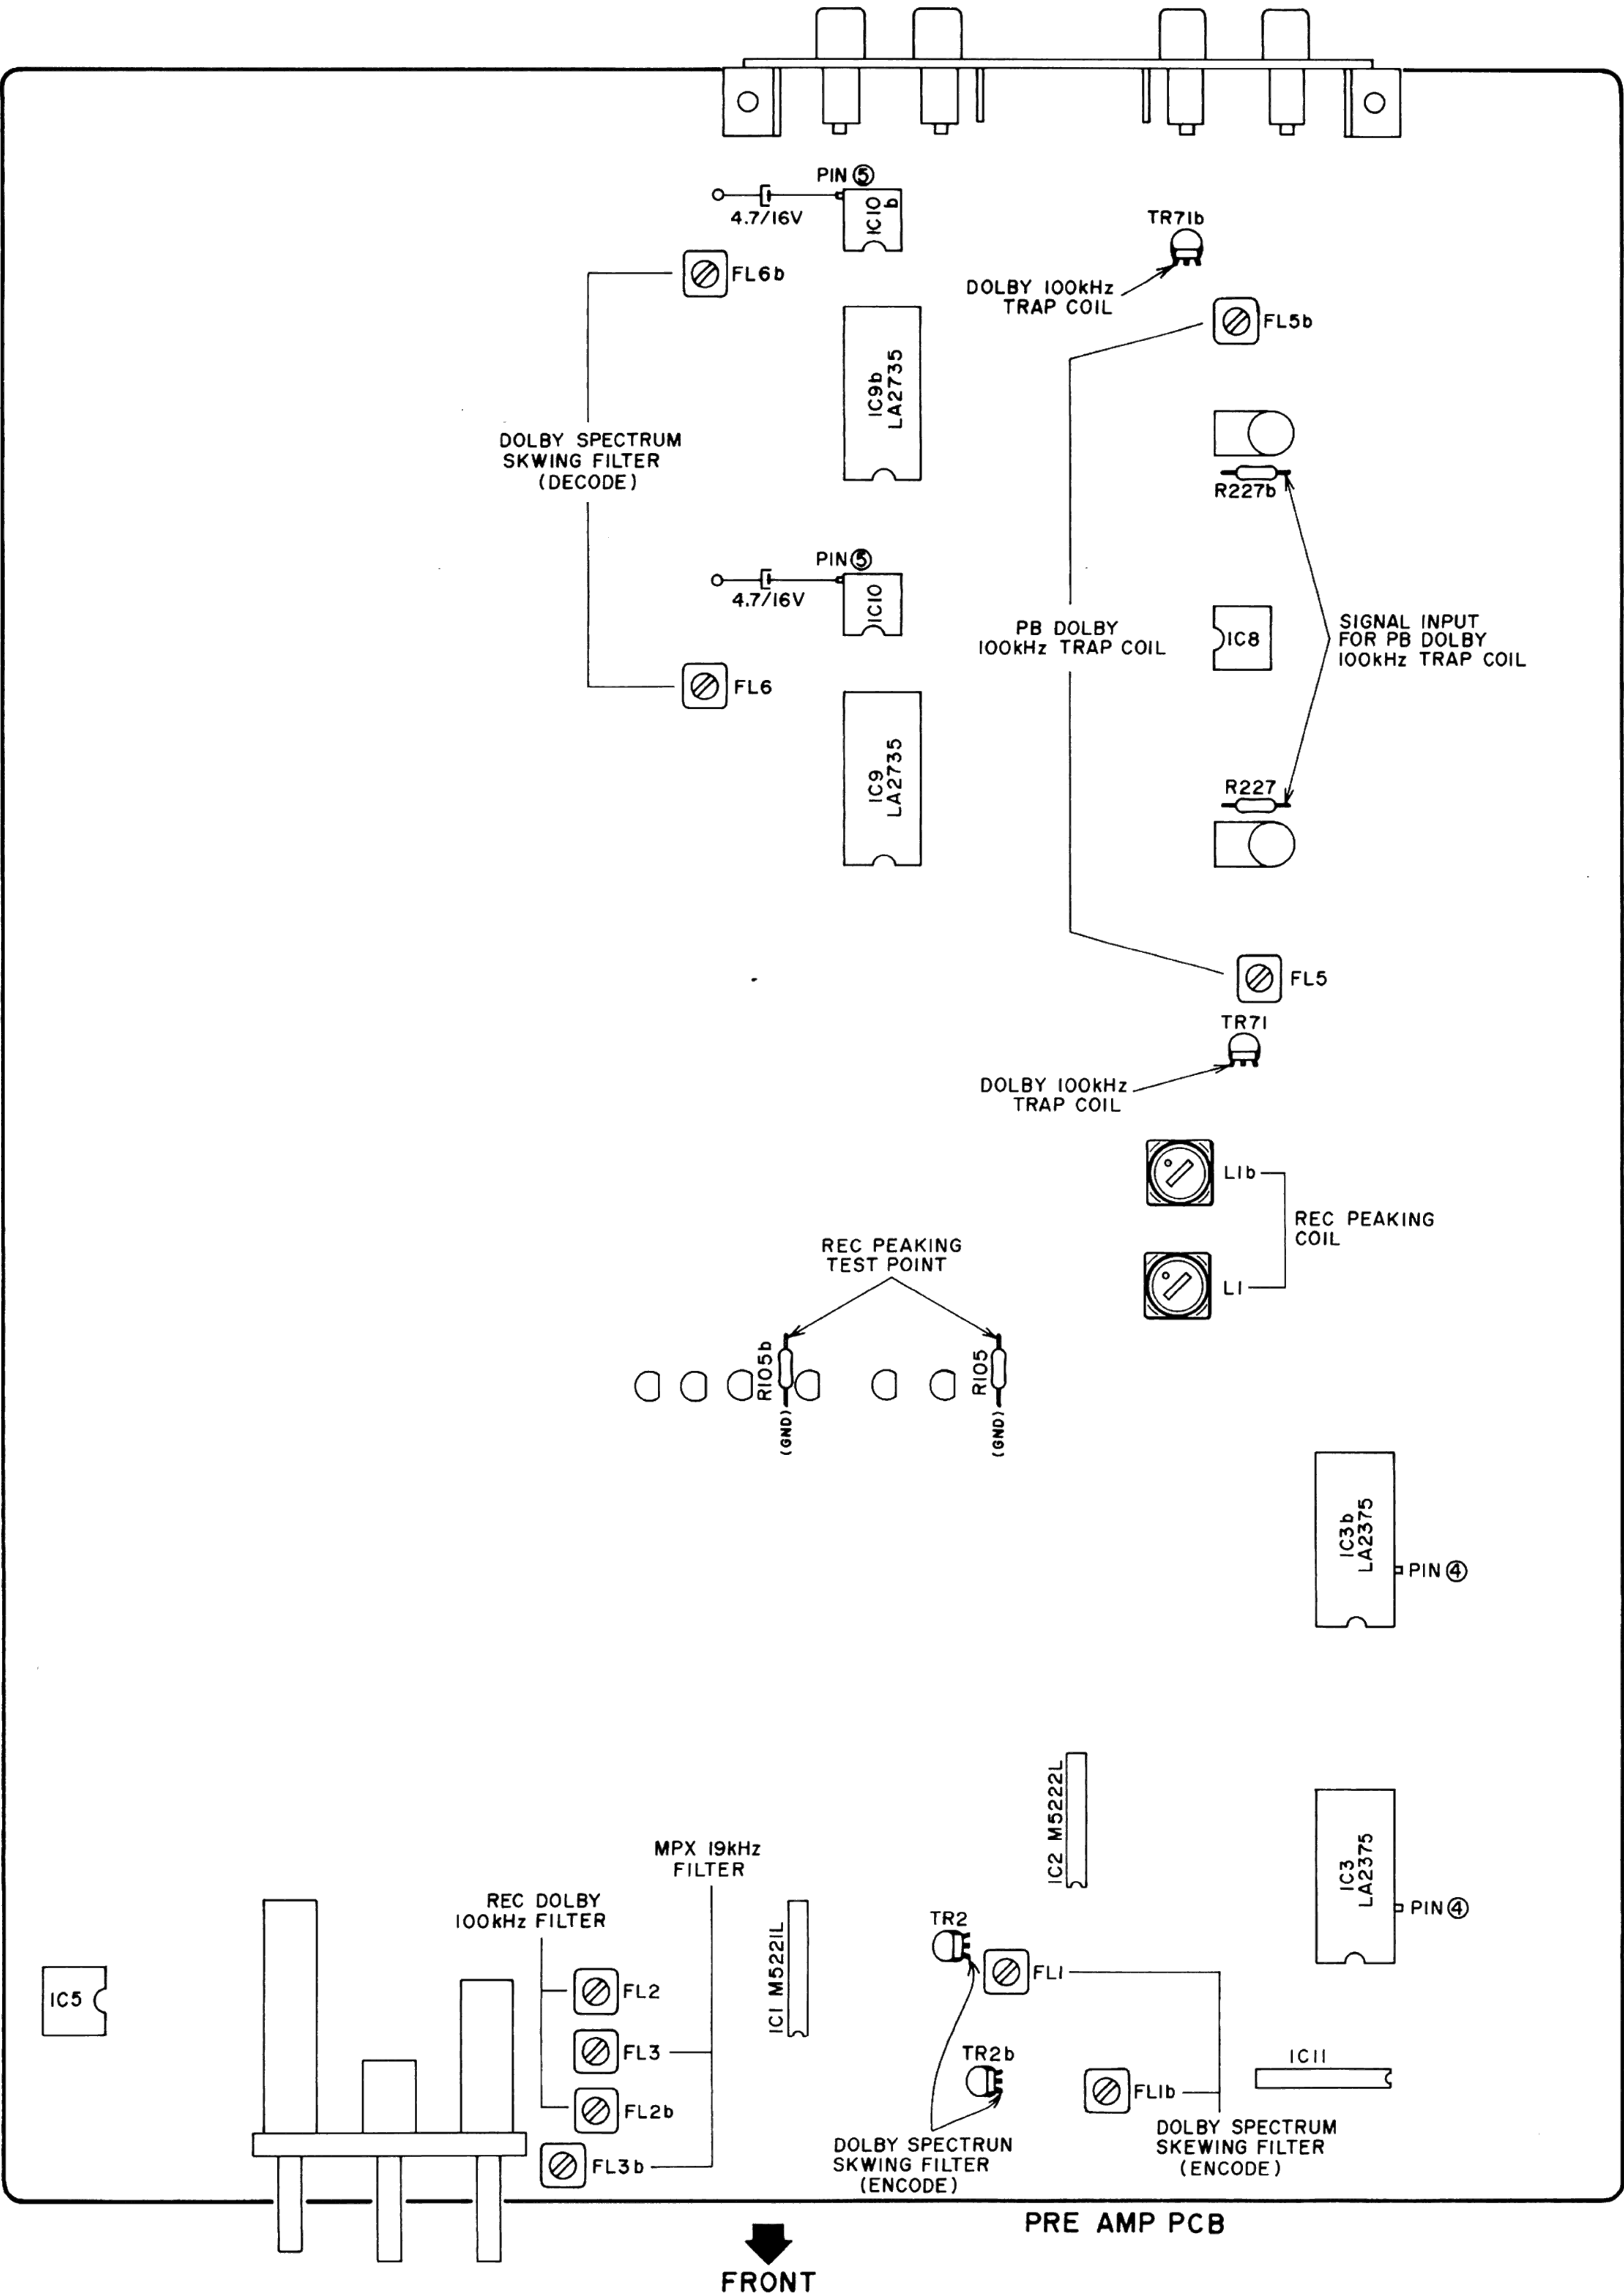

Fig. 7-4 FILTER adjustment points
- Refer to Fig. 7-4 for the adjustment points.